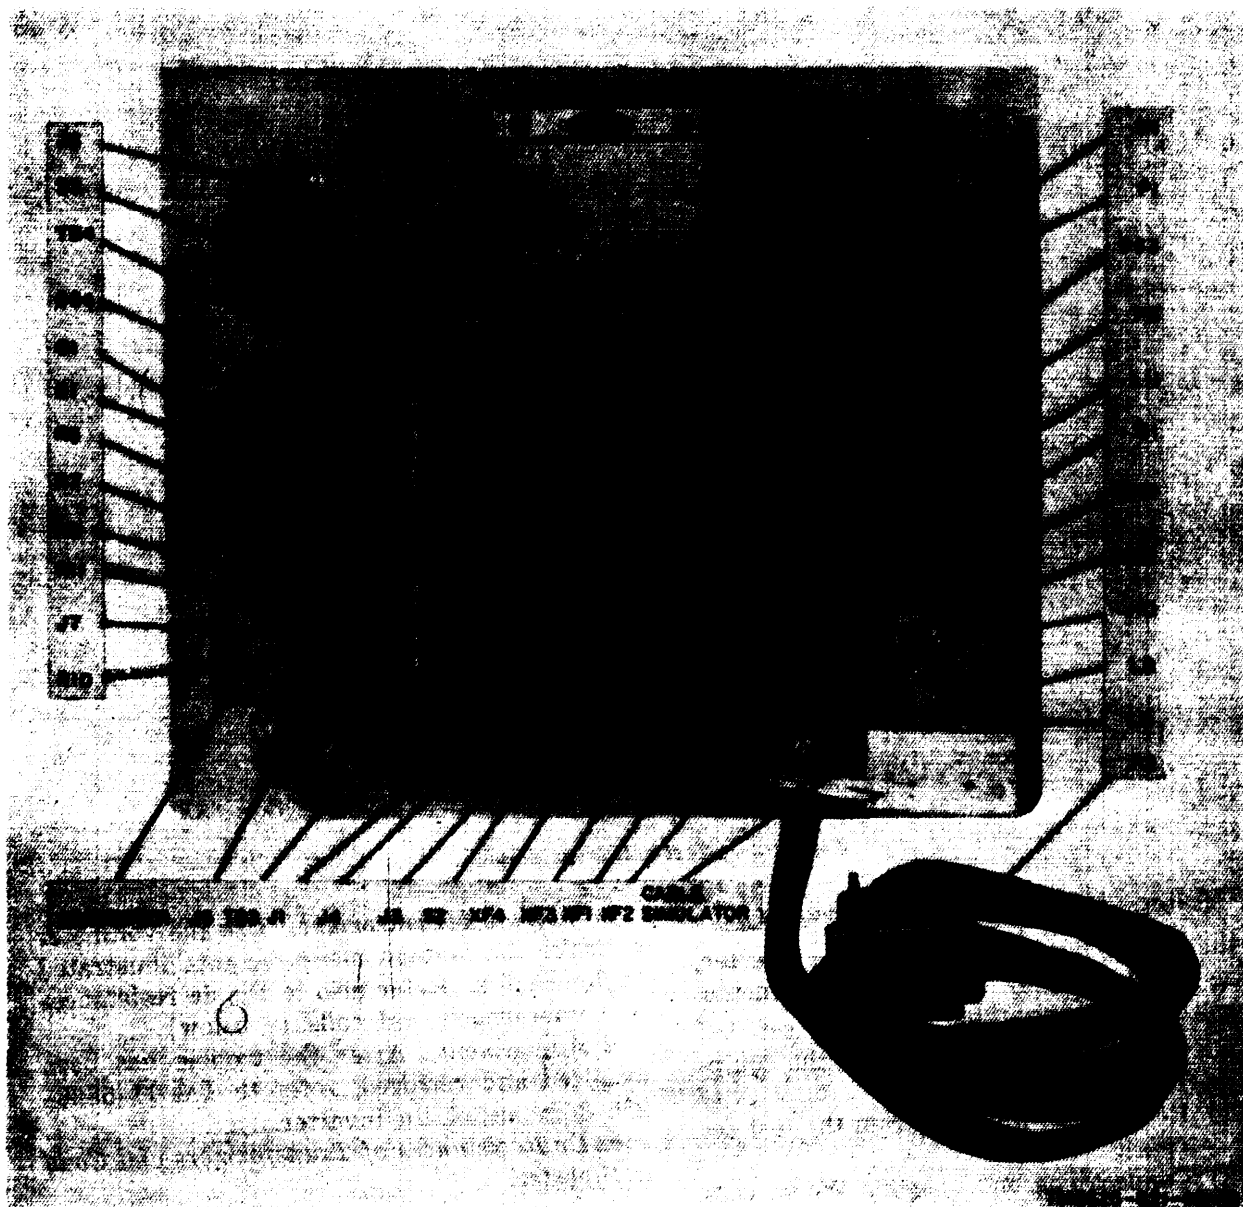

Figure 2-2. Rear side of test set, front panel.
- (1) Remove the test set front panel (para 3-7).
- (2) Remove the covers from the converter and cable simulator circuits (fig. 2-2).
- (2) Remove the two screws from the cover that shields the converter circuit (fig. 2-2).
- (3) Lift the cover away from the test set.
- (4) Replace the defective parts (*a* above).
- (5) Replace the cover over the converter circuit and secure it with the two screws.
- (6) Replace the test set front panel (para 3-12).
- (2) Remove four screws from the plate that covers the shield in which the cable simulator circuit is mounted (fig. 2-2). Remove the plate.
- (3) Replace the defective parts (*a* above).
- (4) Replace the plate over the shield of the cable simulator circuit and secure with the four screws.
- (5) Replace the test set front panel (para 3-12).
- (2) Remove the cover that shields the converter circuit (fig. 2-2).
- (3) Unsolder the two twisted pairs of leads and the two shields from terminal board TB4 mounted on the rear side of the LOOP SIMULATOR. Label leads so they can be identified for replacement of the LOOP SIMULATOR.
- (4) Unsolder the yellow and green leads of resolver B1 from the converter circuit terminal boards.
- (5) Remove the three screws and nuts that secure the LOOP SIMULATOR to the test set front panel.
- (6) Remove the LOOP SIMULATOR from the front of the test set.